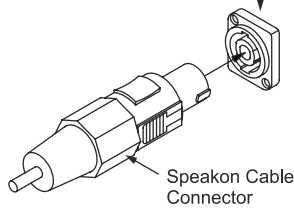
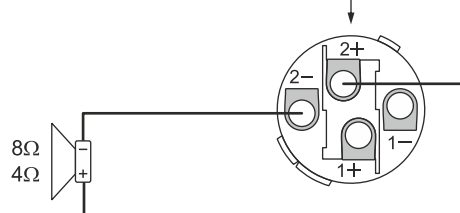

**Fig. 3** Output Connections - Stereo / Mono Mode
**Fig. 4** Output Connections - Bridge Mode
In STEREO / MONO mode amplified signal is available at Pin 1+ & 1- of speakon connector. The output speakon connectors should be wired as per fig. 3 (*Output Connectors for Stereo / Mono Mode*). In BRIDGE mode the output is taken from Pin 2+ and 2- of speakon connector. Output speakon connectors to be wired as per fig. 4 (*Output Connections for Bridge Mode*).
Amplified signal is available at Pin 1+ & 1- of speakon connector. The output speakon connectors should be wired as per fig. 3 (*Output Connectors for Stereo / Mono Mode*). This is not used in Bridge mode.
- Connect a speaker system on the output terminal of each channel. It is recommended to use the speakon connectors and wire these as per fig. 3 (*Output Connections for Stereo / Mono Mode*).
- Connect a speaker system (not below 8 ohm) on the speakon output of channel A only. It is recommended to use the speakon connectors and wire these as per fig. 4 (*Output Connections for Bridge Mode*).
- Connect two numbers each of 2-way loudspeaker system VX-400, in parallel, to each of the output channels of amplifier 1. The output speakon connectors should be wired as per fig. 3 (*Output Connections for Stereo / Mono Mode*).
- Connect two numbers each of high powered subwoofer system SWX-650, in parallel, to the channel A & B outputs of amplifier 2 respectively. Output speakon connectors to be wired as per fig. 3 (*Output Connections for Stereo/MONO Mode*).
- Connect two numbers each of 2-way loudspeaker system SPX-400DX, in parallel, to each of the output channels of amplifier 1. The output speakon connectors should be wired as per fig. 3 (*Output Connections for Stereo / Mono Mode*).
- Connect two numbers each of 2-way loudspeaker system SPX-400DX, in parallel, to each of the output channels of amplifier 2. The output speakon connectors should be wired as per fig. 3 (*Output Connections for Stereo / Mono Mode*).